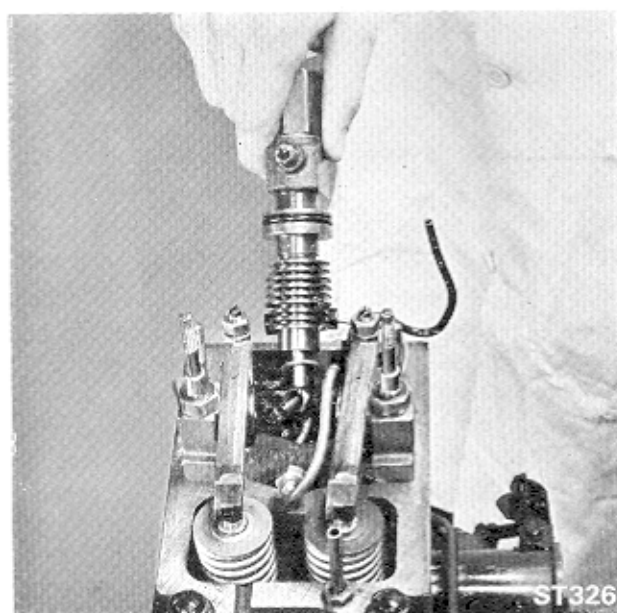

Fig. 26. Removing Injector
**REMOVING INJECTOR (Fig. 26)**